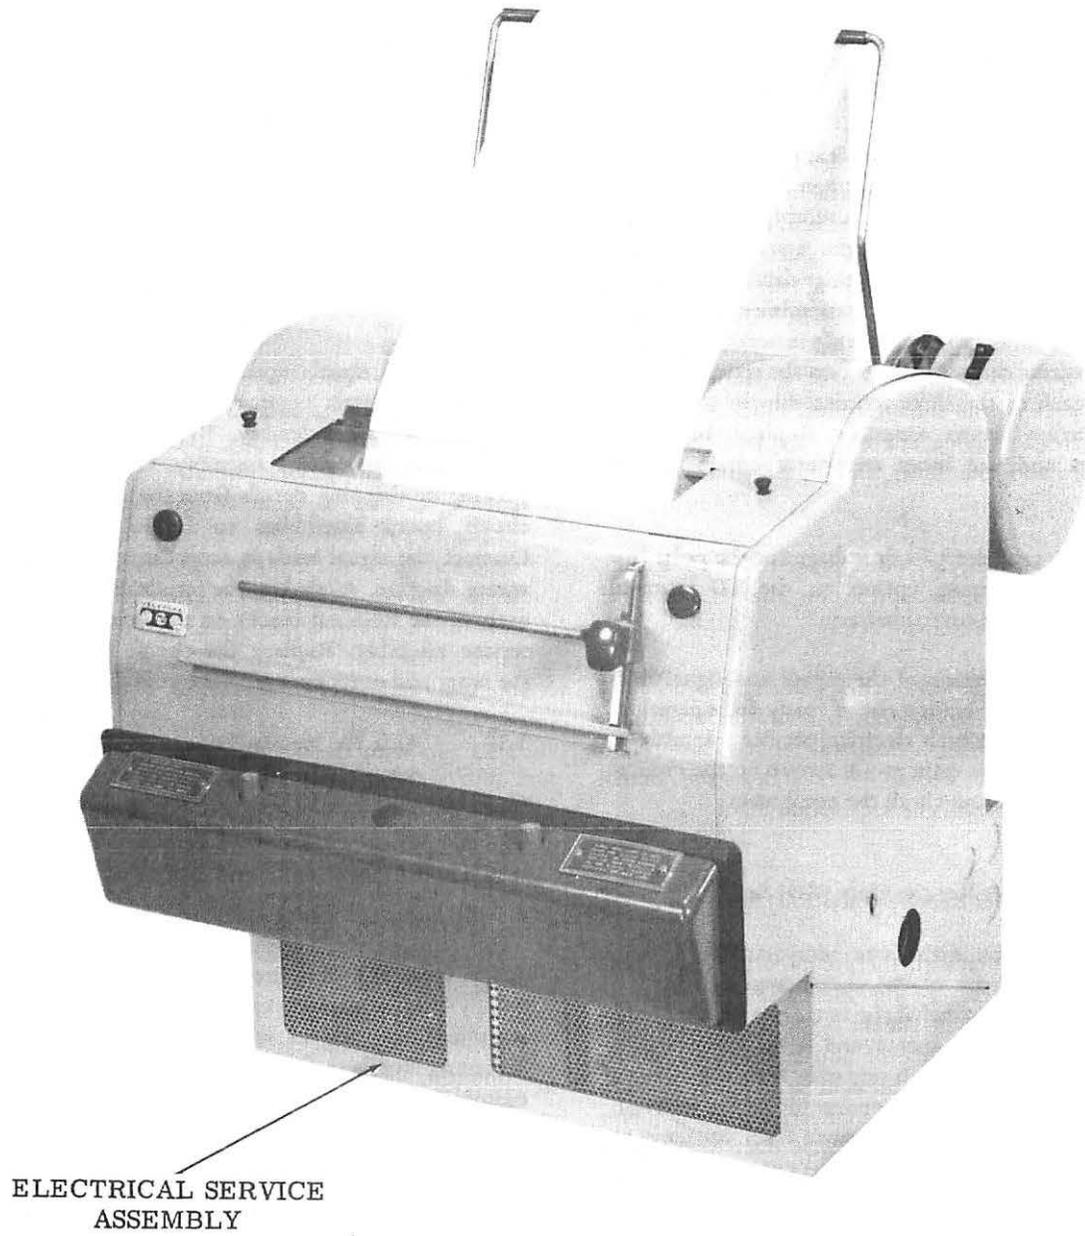

Figure 8 - Rack Mounted Receive-Only (RO) Set
- (c) Route control leads through conduit to terminal block (TD).
G. Rack Mounted Receive-Only (RO) Set (Figure 8)
3.33 Remove and retain the access plate and the mounting hardware at either or both sides of the ESA. Fasten 3/4-inch conduit for ac power input to either side of the ESA. Route the power input leads through the conduit into the compartment of the left side. Route the power input leads to terminal block (TA) located on a bracket attached to the rear wall. Turn the power switch to the OFF position.